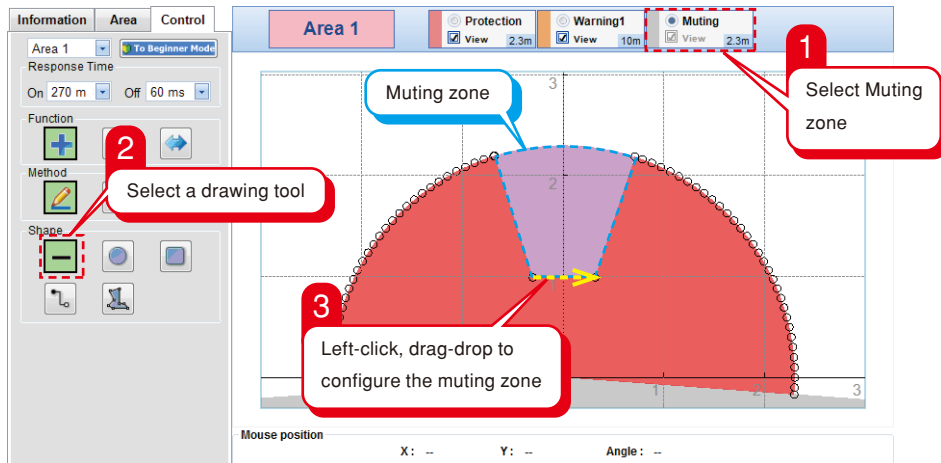

Figure 7-49. Muting zone configuration
- g) Muting zone is displayed in purple colour as shown in figure 7-49.